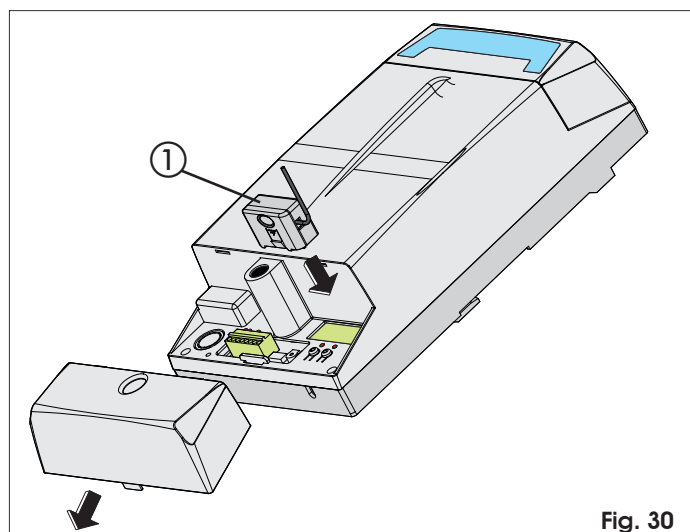

Fig. 30
The control unit has an integrated 2-channel decoding system (DS, SLH, LC) named OMNIDEC. This system makes it possible to memory-store both total opening (OPEN A) and partial opening (OPEN B) of the automated system - this is made possible by an additional receiver module (Fig. 30 ref. ①) and radio controls on the same frequency.